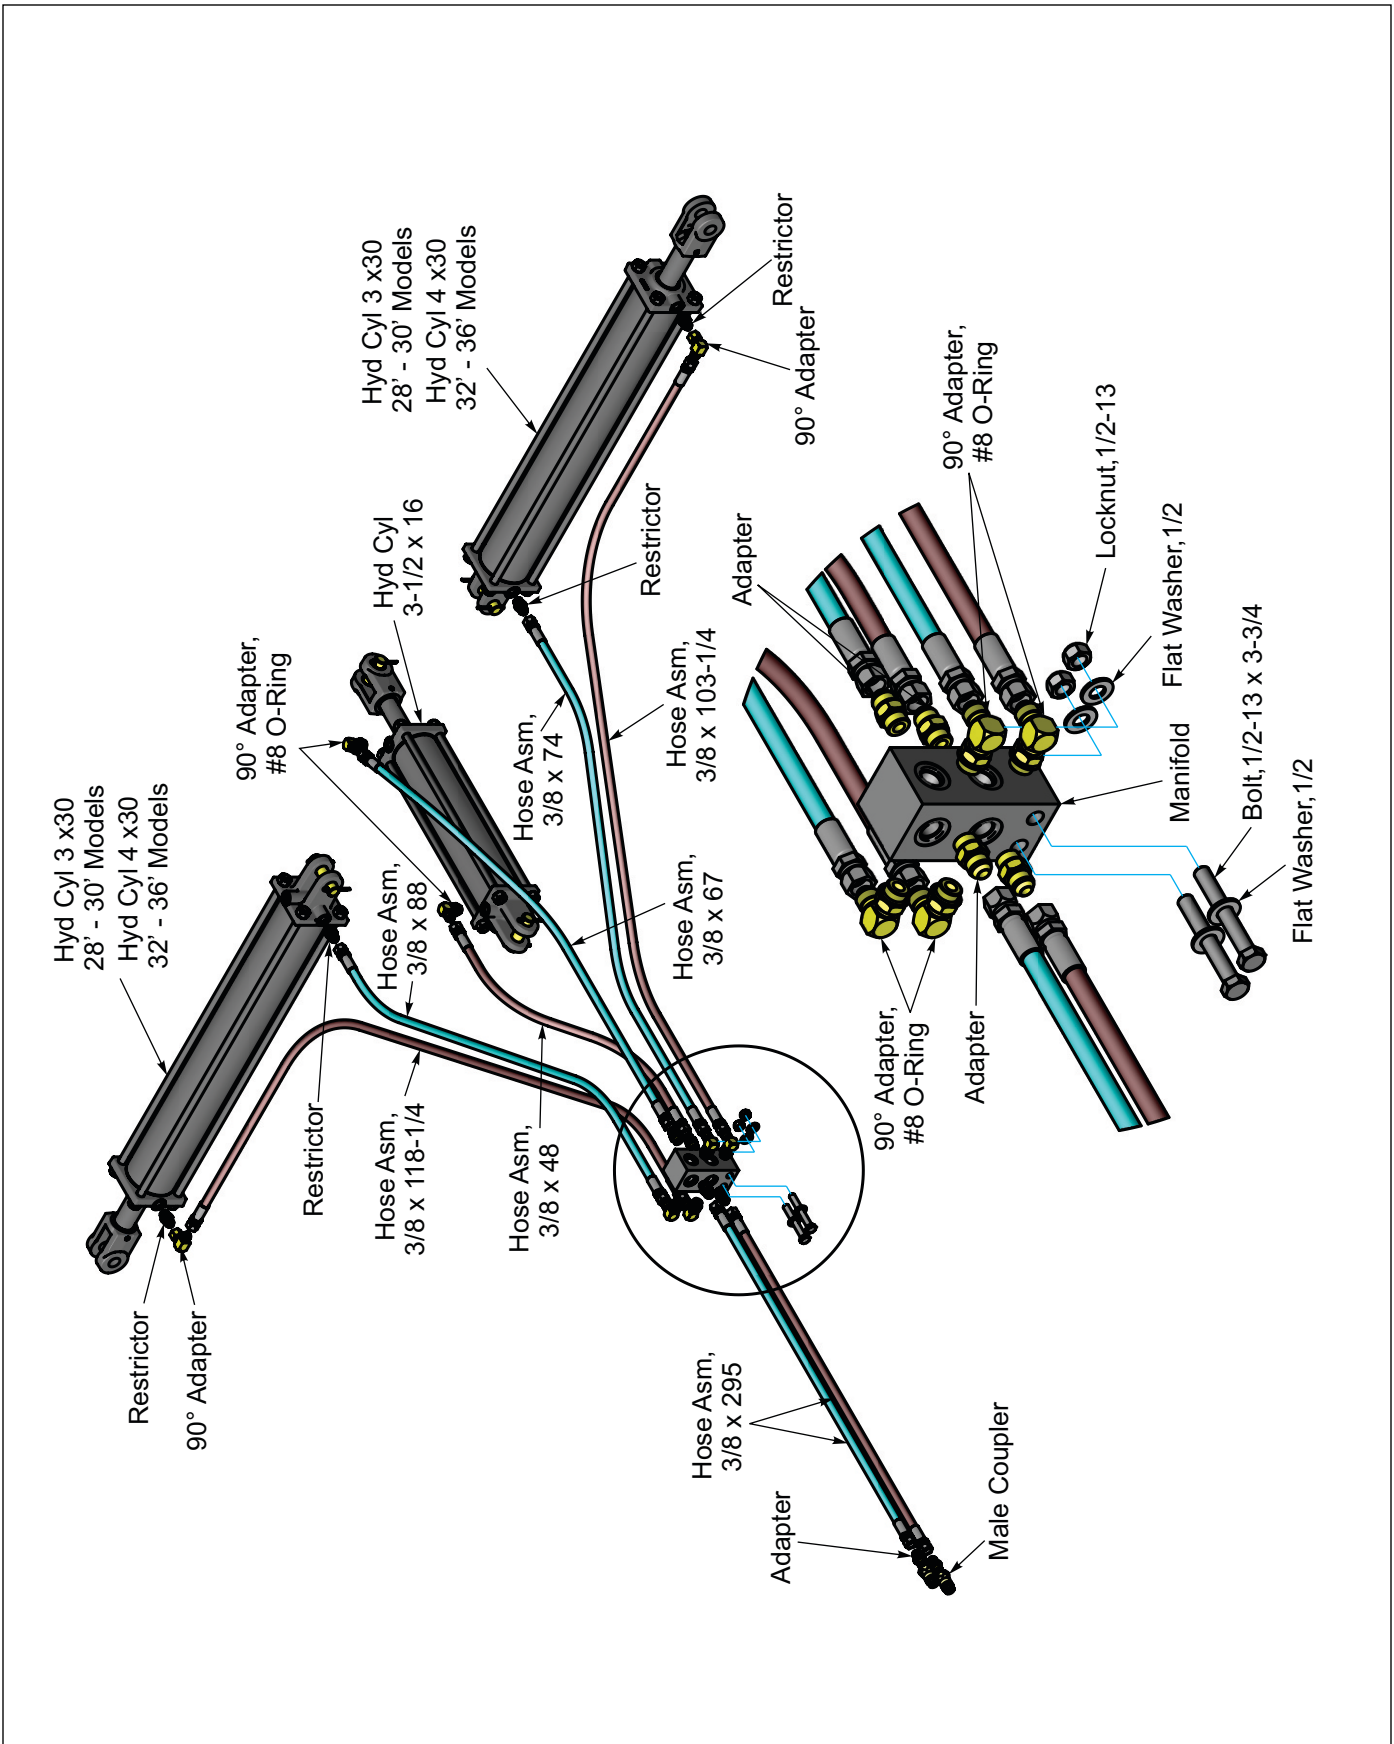

Figure 2-10: Hydraulic Schematic
1. Attach the 8 Port Manifold to the front of the manifold bracket located on top of the drawbar strap with 1/2-13 x 3-3/4 Bolts, Flat Washers and Locknuts. Install the fittings into the manifold with the elbow fittings pointing rearward. **See Figure 2-10.**
Use the Hydraulic Schematic as a reference. **See Figure 2-10.**